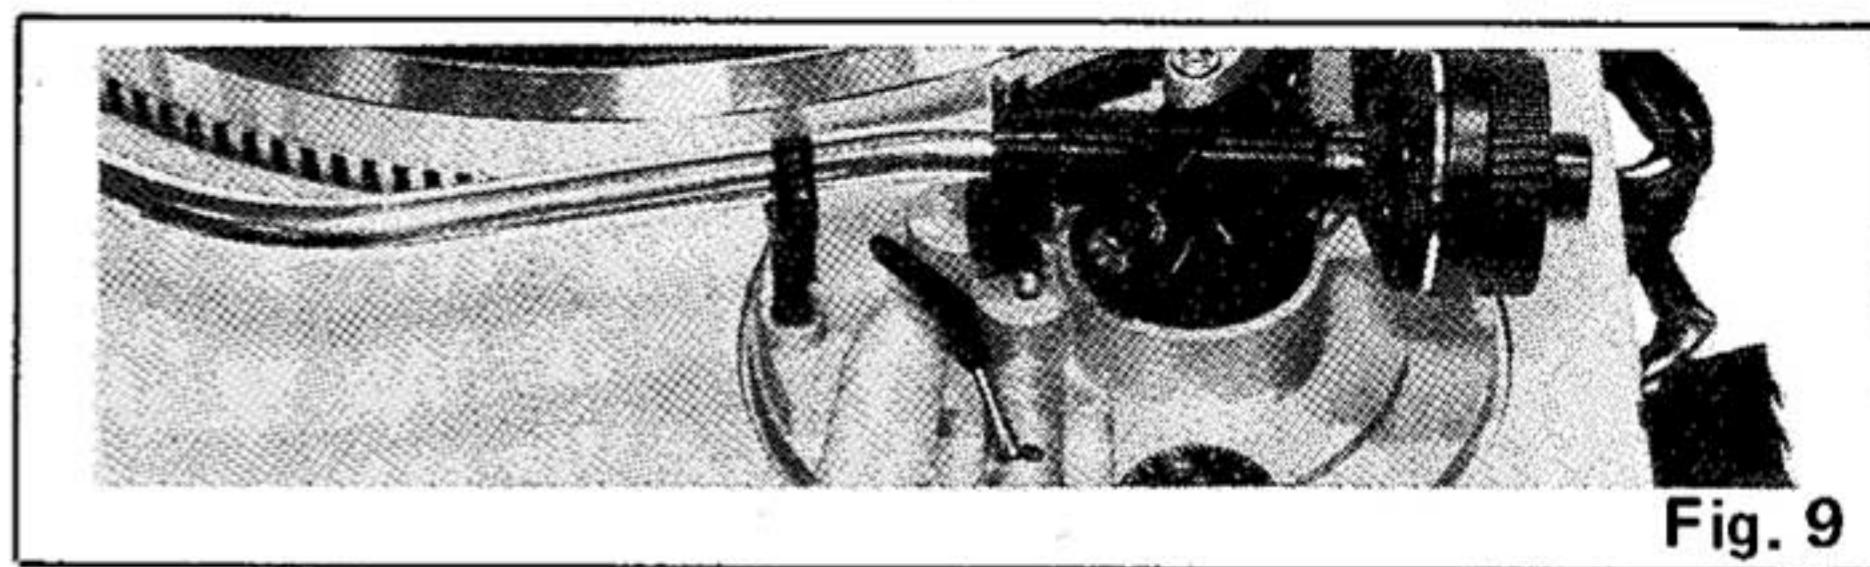

Fig. 9
6. Set the cueing lever to the up position. (See Fig. 9.)